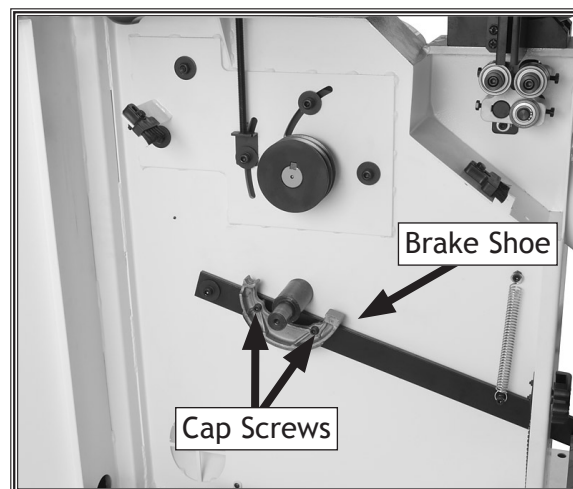

Figure 72. Brake shoe location.
3. Remove the cap screws, lock washers, and bushings that secure the brake shoe to the brake lever, then remove the brake shoe (see **Figure 72**).